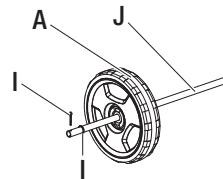

Fig. 1
- Install the axle (J) through one rear wheel (A), attach with the washer (I) then fix and bend the pin (I) at the end of the axle (J). (Fig. 1)